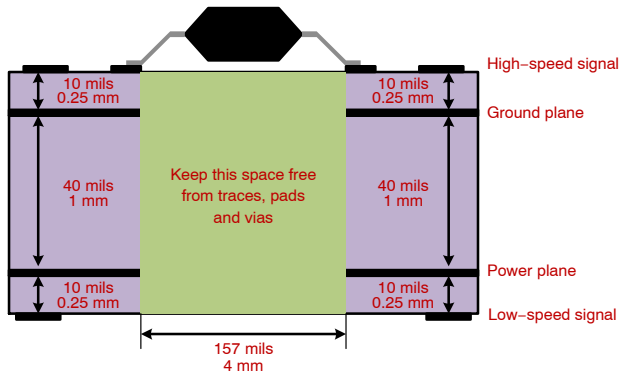

Figure 51. Recommended Layer Stack
- To ensure isolation performance between the primary and secondary side, any PCB traces or copper should be not placed under the driver device as shown in Figure 51. A PCB cutout is recommended to avoid contamination that may impair the isolation performance of NCV51152.